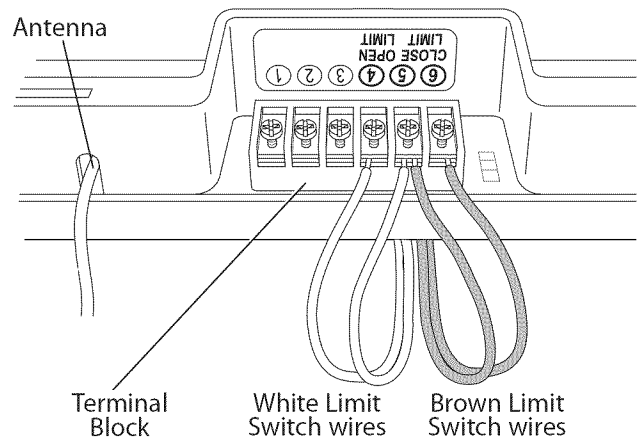

Figure 15 Connect Limit Switch Wires to Power Head Terminal Block
- H** Turn Opener upside down, and connect Limit Switch Wires to Power Head Terminal Block (**Figure 15**):